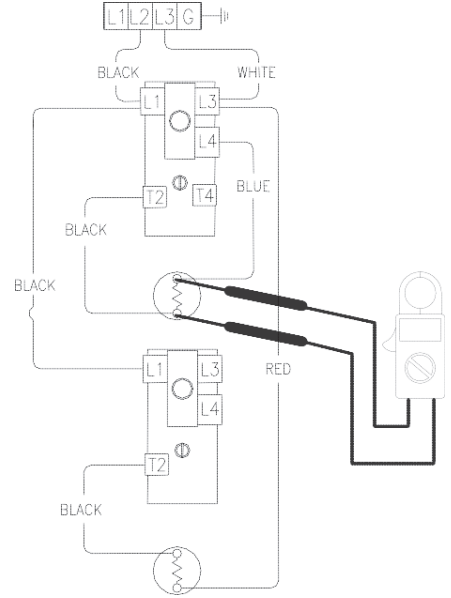

Figure 36
6. Check across upper element terminals (see Figure 36).